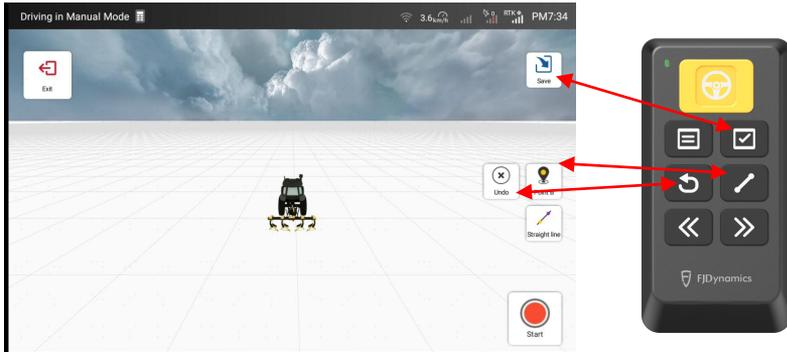

Figure 12 Guidance line
1) **Marking, canceling and saving points:** Press the buttons on the FJD Easy Control to mark, cancel, and save points, as shown in Figure 12.